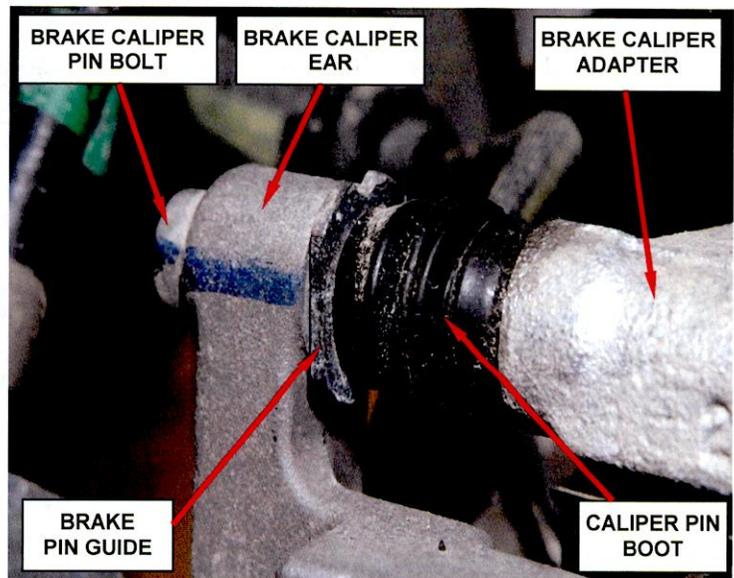

Figure 18 – Brake Pin Guide
11. Install the new brake caliper pin retaining bolts (Figure 18). Tighten the bolts to 26 ft. lbs. (34 N·m).
NOTE: The brake pin guide must be indexed as shown in Figure 18.